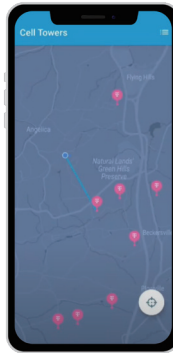

Figure 2
- 3) Enter signal dashboard, and click “CELL TOWERS”. Then zoom in map to find best one, it will show a blue line with your place which means your cellphone connected one. (following figure 2&3)